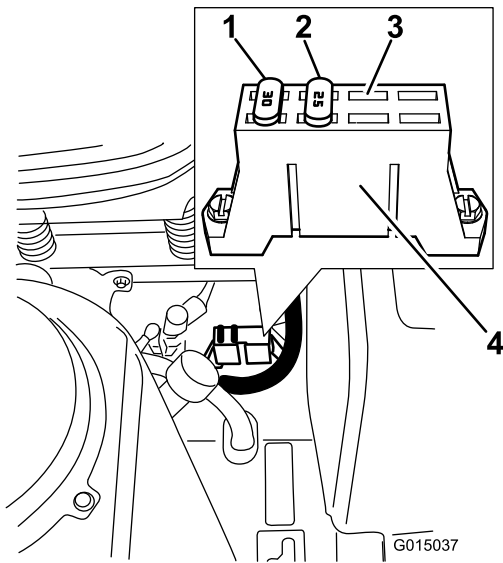

Figure 55
1. The fuses are located on right hand console next to the seat (Figure 55).
3. Install a new fuse of the same amperage removed (Figure 55).